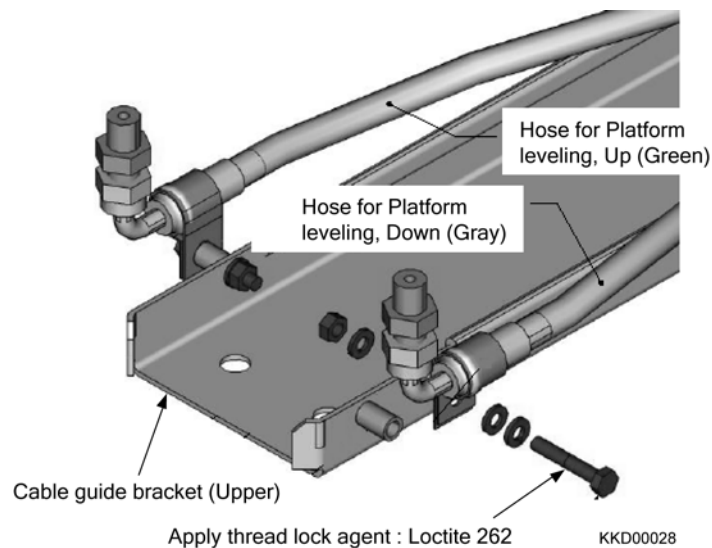

Fig. 2-60
5) Fix the hoses for platform leveling to the top of the cable guide bracket (Upper). (Fig. 2-60)